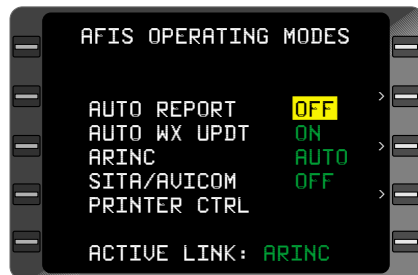

Figure 7-109
5. **BACK** Key - DEPRESS. **OFF** appears in the cursor. (Figure 7-109)